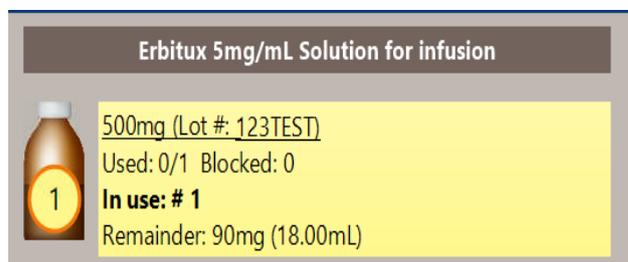
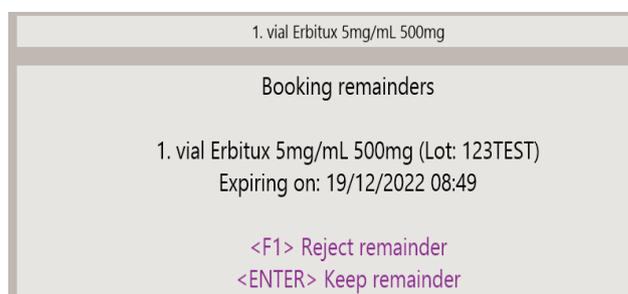

Figure 3: extract from remainder screen
Figure 4: example of remainder screen options
- When you have gone through all the guided steps and there is some drug left over in the vial you will be told how much is left (*figure 3*) and asked if you want to keep this as a remainder to be used again (press F1 function key) or if you want to reject it and record the drug as a loss (press Enter)(*figure 4*)